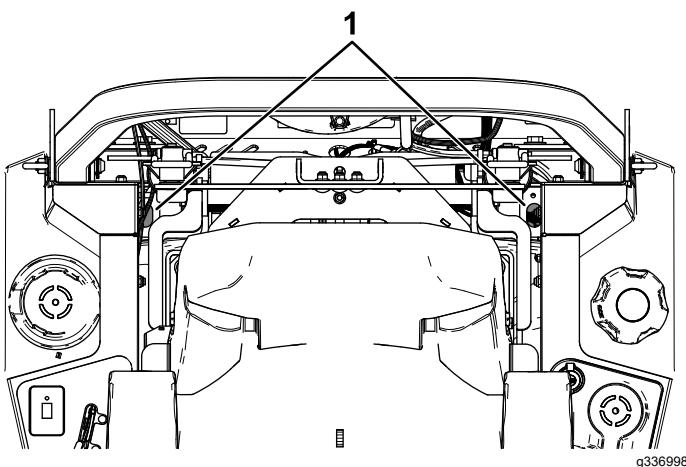

Figure 86
- For ZT 4400 Hydros, use an extension and 7/16-inch socket, access the vent plug from the top of the machine through the holes near the roll-bar mounts (Figure 86).